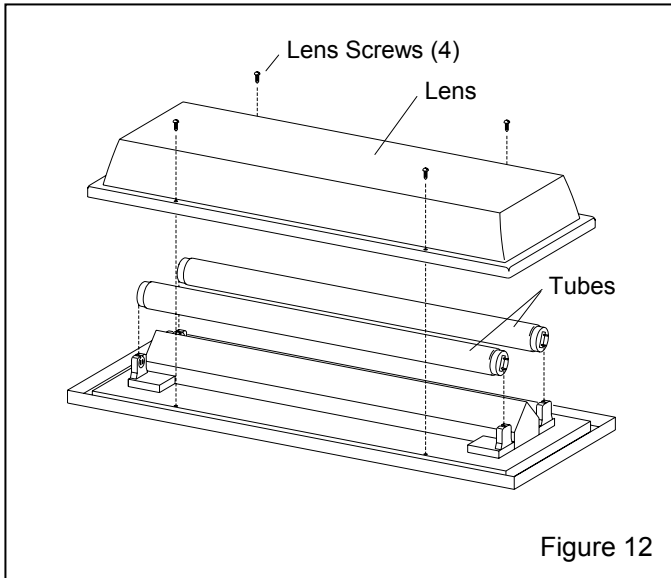

Figure 12
**7.6.3.2** Flip the assembly over to access the lens screws, ref. Figure 12.